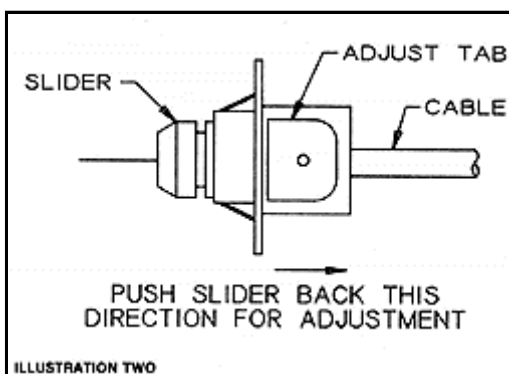

Figure 12
STEP 18 Locate the readjust tab (**See Figure 12**). Depress tab and move slider through the fitting away for the lever assembly. When the slider stops against the fitting, release the readjust tab.